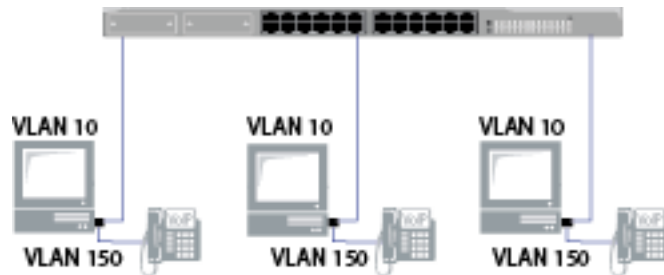

Figure 55. VoIP Phone Configuration Example
The AT-2911GP adapter card is installed on a PC and connects the PC to the Ethernet network through the fiber optic port and a Powered Device (PD) through the PoE+ copper port. A PD is a device powered through an Ethernet cable by a Power Supply Equipment (PSE). A PC with the AT-2911GP adapter card is a PSE; a VoIP phone, Wi-Fi access point, and security camera are PD's. Figure 55 illustrates the configuration of PC's and VoIP phones as an example using the AT-2911GP adapter cards.